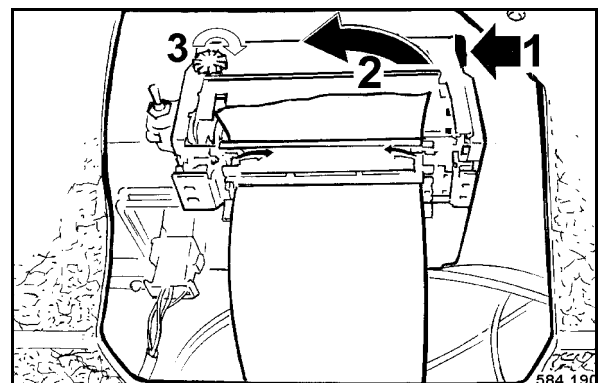

Fig. 107
- Lift the tongue at point 1 (Fig. 107) and take the printer ribbon (2) out of the printer.
- Insert the new printer ribbon into the printer, then press in the tongue (1) on the right.
- Tension the printer ribbon by turning the rotary button (3) in direction of arrow.